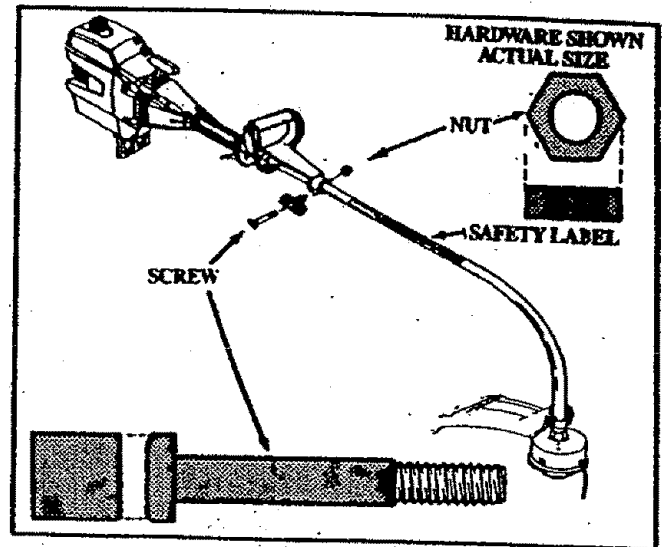

Figure 8
### 5. ASSIST HANDLE -- Figures 8 & 9
a. Be sure the Handle is positioned between the Safety Label and the Throttle Trigger. Figure 8.
d. Pull on the threaded end of the Screw to bring the square head of the Screw past the pin inside the T-Handle. Twist the Screw to seat the head of the Screw in the recessed square opening inside the T-Handle. Figure 8.
e. Push the Nut into the hex opening in the Assist Handle and install the T-Handle into the round opening. Figure 8.